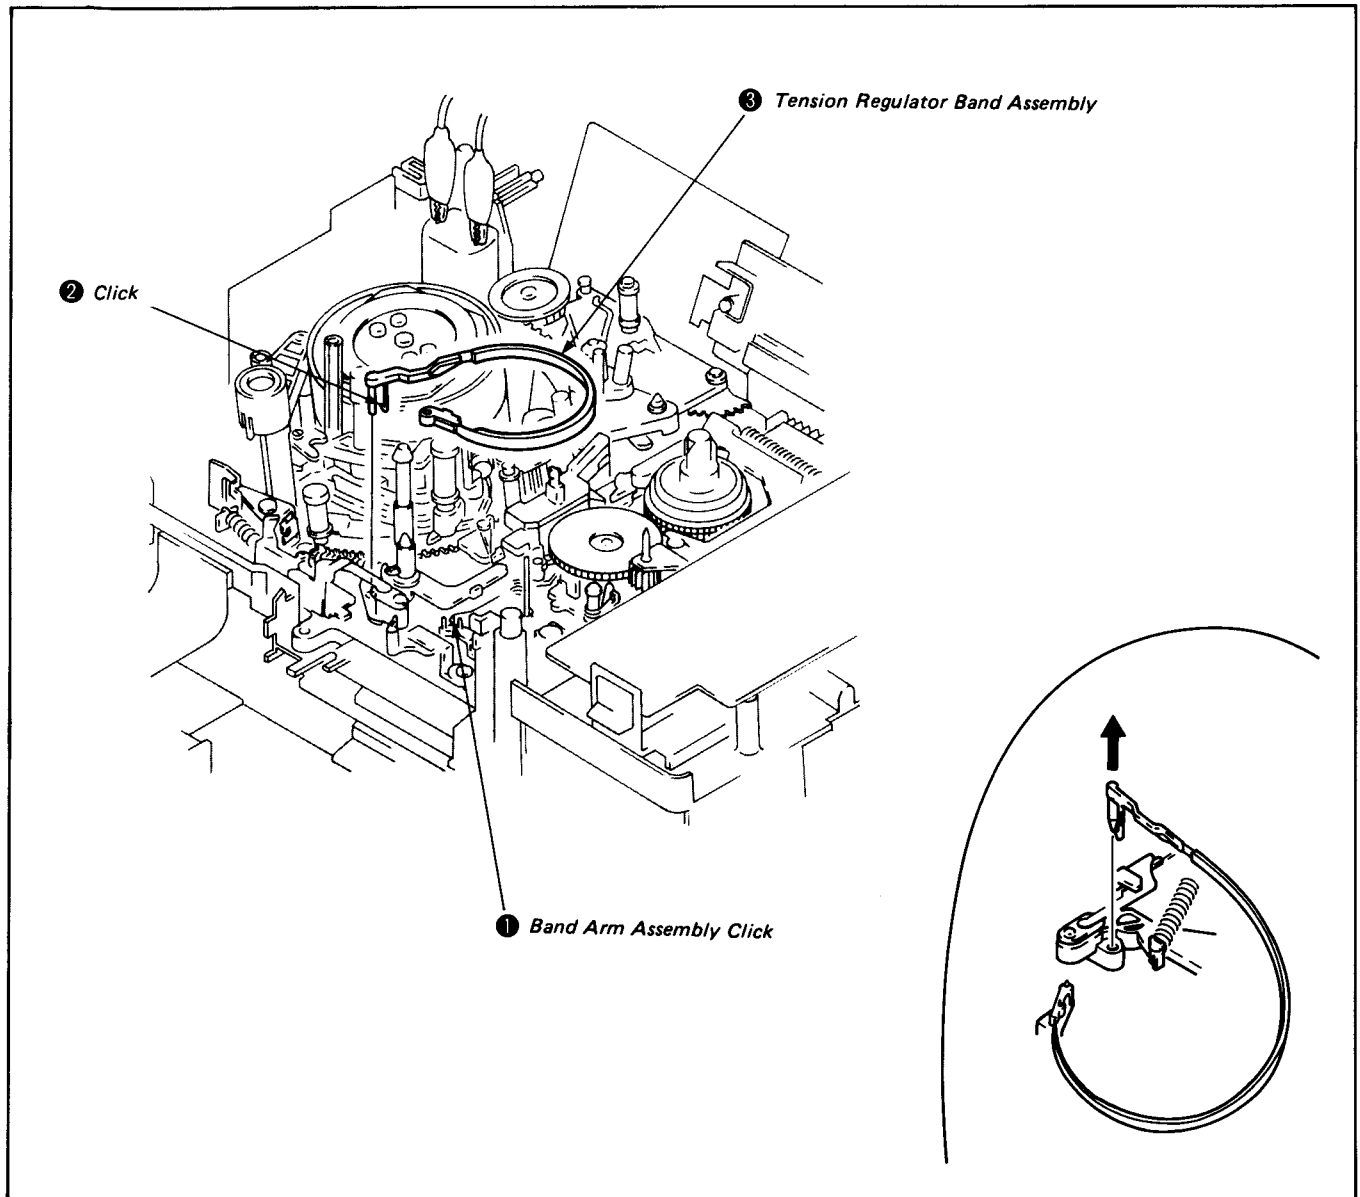

Fig. 8-11.
- 2) Disengage the band arm assembly click ❶.
- 3) Disengage the click ❷ and remove the tension regulator band assembly ❸. (See Fig. 8-11.)
- 1) Remount the tension regulator band assembly ❸. (Do not touch or deform the band.)
- 2) Reengage the band arm assembly click ❶. (See Fig. 8-11.)